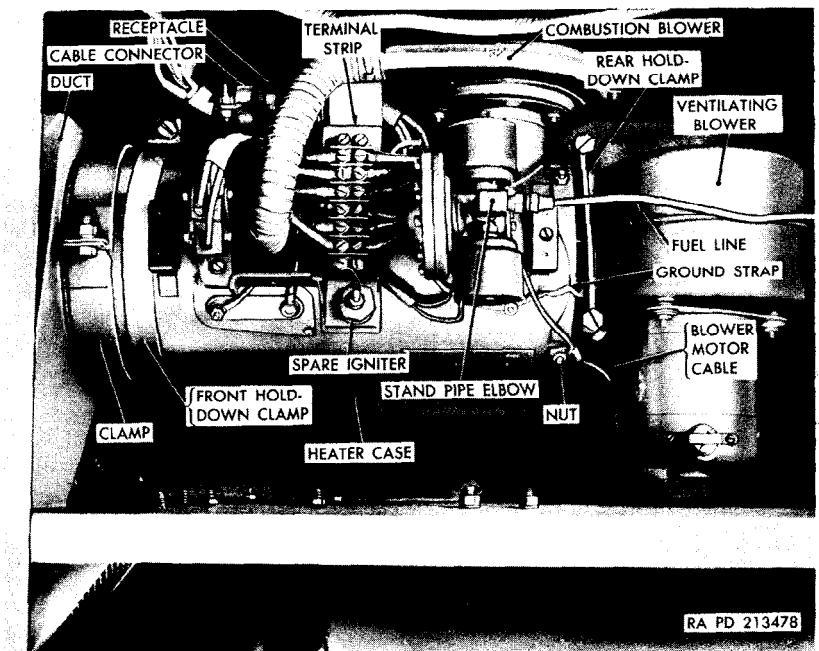
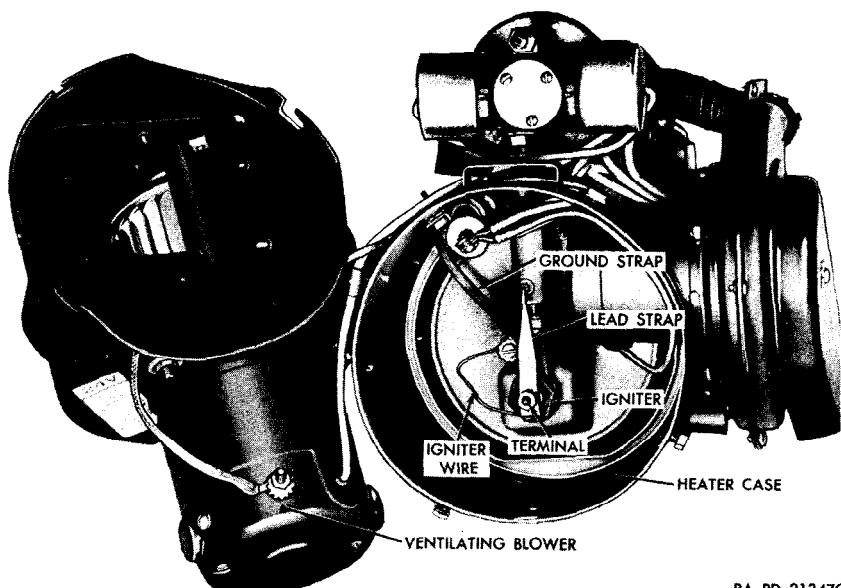

Figure 227. Personnel heater—installed.
Figure 228. Personnel heater igniter.
a. Remove Heater (fig. 227).
- (1) Raise the right litter rack (par. 44c).
- (2) Turn the two guard fastener studs counterclockwise and remove the guard.
- (3) Disconnect the cable connector at the receptacle.
- (4) Disconnect the fuel line at the standpipe elbow.
- (5) Remove the two screws that secure the rear holddown clamp and remove the clamp.
- (6) Loosen the nut on the bolt in the clamp and the screw in the front holddown clamp. Pull the heater toward the rear to disengage it from the duct and remove the heater. Remove the O-ring gasket and heater spacer plate from the exhaust outlet extension at the under-side of the heater.
b. Install Heater (fig. 227).
- (1) Install the heater spacer plate and a new O-ring gasket on the exhaust outlet extension at the under side of the heater.
- (2) Position the asbestos-lined clamp on the heater duct. Install the heater, making certain that the exhaust outlet extension is properly aligned with the exhaust outlet pipe.
- (3) With the heater properly positioned, position the holddown clamps and install the rear clamp screws. Tighten all clamp screws and the clamp nut.
- (4) Connect the fuel line to the standpipe elbow.
- (5) Connect the cable connector to the receptacle.
- (6) Install the guard and turn the guard fastener studs clockwise.
- (1) Remove the heater (*a* above).
- (2) Disconnect the blower motor cable from the No. 2 terminal on the terminal strip (fig. 227).
- (3) Detach the ground strap at the heater case (fig. 227).
- (4) Scribe alining marks (fig. 227) on adjacent parts of the heater case and the ventilator blower motor housing. Loosen the four nuts that secure the ventilating blower to the heater case. Turn the blower counterclockwise to disengage it from the studs in the heater case and remove the ventilating blower from the case.
- (5) Remove the screw and lockwasher that secure the igniter wire and ground strap (fig. 228).
- (6) Remove the two nuts from the igniter terminal, remove the igniter lead strap from the terminal and carefully move the strap to one side.
- (7) Wrap the igniter wire around the terminal and remove the igniter, using a suitable deep socket wrench.
- (1) Wrap the wire of the new igniter around the igniter terminal and install the igniter (fig. 228), using a suitable deep socket wrench. Tighten. Unwrap the igniter wire from the terminal.
- (2) Attach the lead strap (fig. 228) to the igniter terminal and install the two terminal lock nuts. Tighten the nuts.
- (3) Secure the igniter wire and the ground strap with the lock-washer and screw (fig. 228). Tighten the screw.
- (4) Install the ventilating blower on the heater case. Turn the blower clockwise to engage the studs in the heater case, matching the alining marks (*c*(4) above).
- (5) Attach the ground strap to the heater case (fig. 227).
- (6) Attach the blower motor cable to the No. 2 terminal on the terminal strip (fig. 227).
- (7) Install the heater (*b* above).